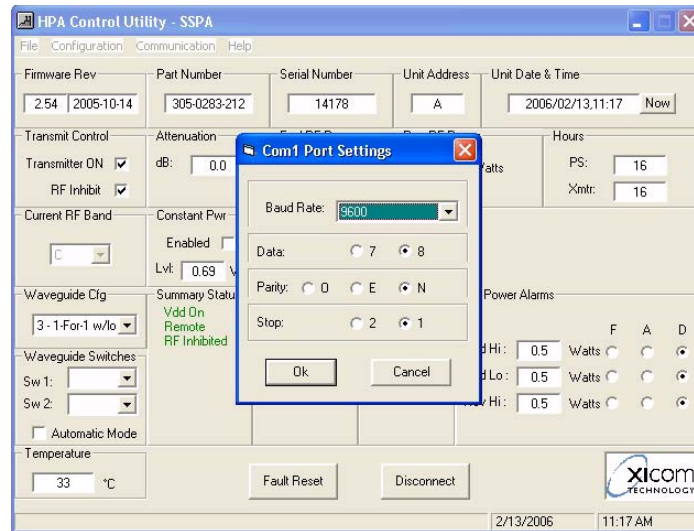

Figure 28, COM Port configuration
15. Refer to Figure 28. The “COM Port” option on the Communications menu allows you to set the Baud Rate, number of Data Bits, Parity and number of Stop bits used on the PC side of the connection.